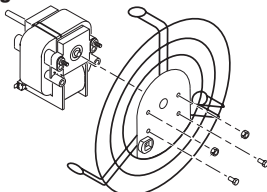

Figure 12 - Removing or Attaching Fan Guard from Motor
4. Remove two nuts and two screws that attach fan guard to motor using nut-driver. Remove fan guard from motor (see Figure 12).